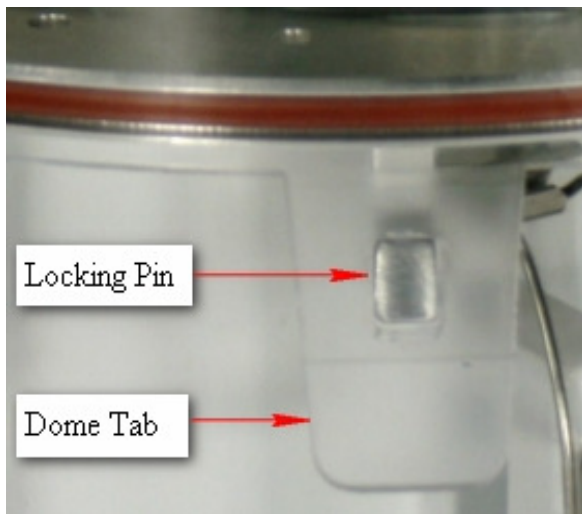

Figure 3-1 - Dome Removal
**Remove:** The Dome Assembly is secured to the beacon base by three tabs as shown in Figure 3-1. Gently pull out and up on the base of the tab to clear the locking pin. The dome assembly lanyard is secured to the beacon Base support bolt. The dome may be carefully lifted off the top of the beacon by gently pulling outward on the lanyard hole tab and letting air enter.